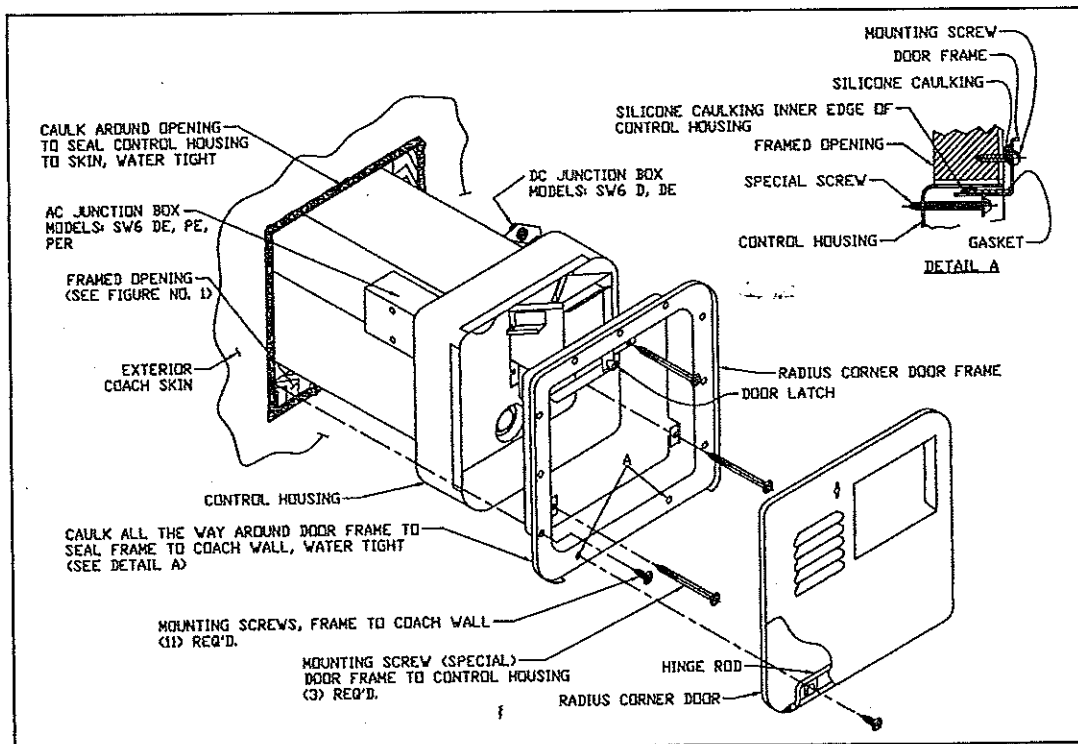

Figure 3
- C. Caulk around framed opening (trailer skin) as illustrated in Figure 3.
- D. Apply a bead of silicone caulking (or suitable caulking) around the inner edge of the control housing. See detail "A" in Figure 3. This will seal the frame to control housing.
- E. Apply a bead of silicone caulking (or suitable caulking) around back side of door frame. See detail "A" in Figure 3. This will seal frame to coach skin.
- F. Fit the door frame into control housing (over the caulking already applied) and pull frame tight to control housing using the three (3) No. 8-15 x 3 1/2" screws provided.
- G. Push water heater into framed opening until back side of door frame is against the side of the coach and firmly attach with screws around the perimeter of the frame. NOTE: The two holes in bottom of frame identified as "A" in Figure 3 are also used to mount door hinge to the frame.
- I. Attach door to frame as illustrated in Figure 3.